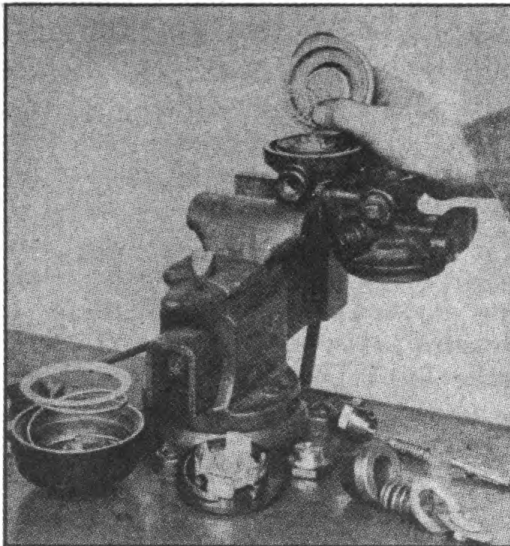

FIGURE 34. RELAY—EMERGENCY VALVE—REMOVING SPRING AND STRAINER
- (b) Lift out spring and strainer (Fig. 34).